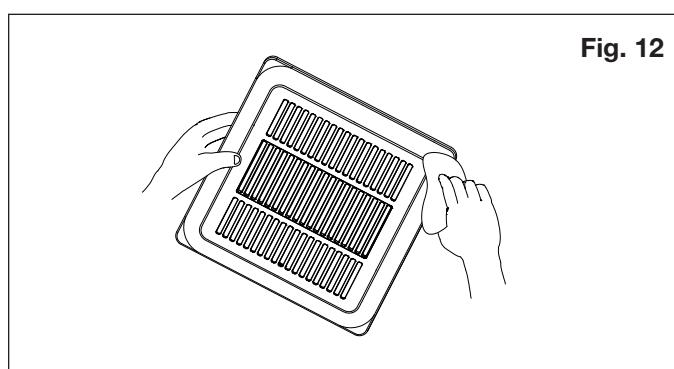

Fig. 12
2. Clean grille. Do not put into hot water. Use non-abrasive kitchen detergent, wipe dry with clean cloth. See Fig. 12.